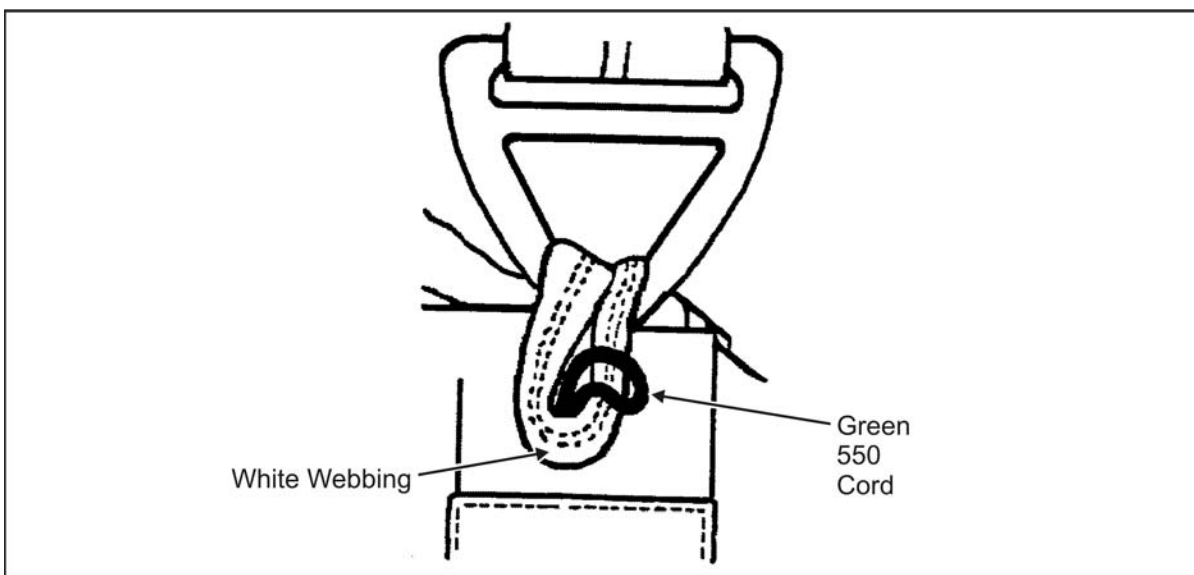

Figure 5-21. Inserting the Green 550 Cord Through the White Webbing
- Pulls the green 550 cord through the white webbing (Figure 5-21, page 5-21).